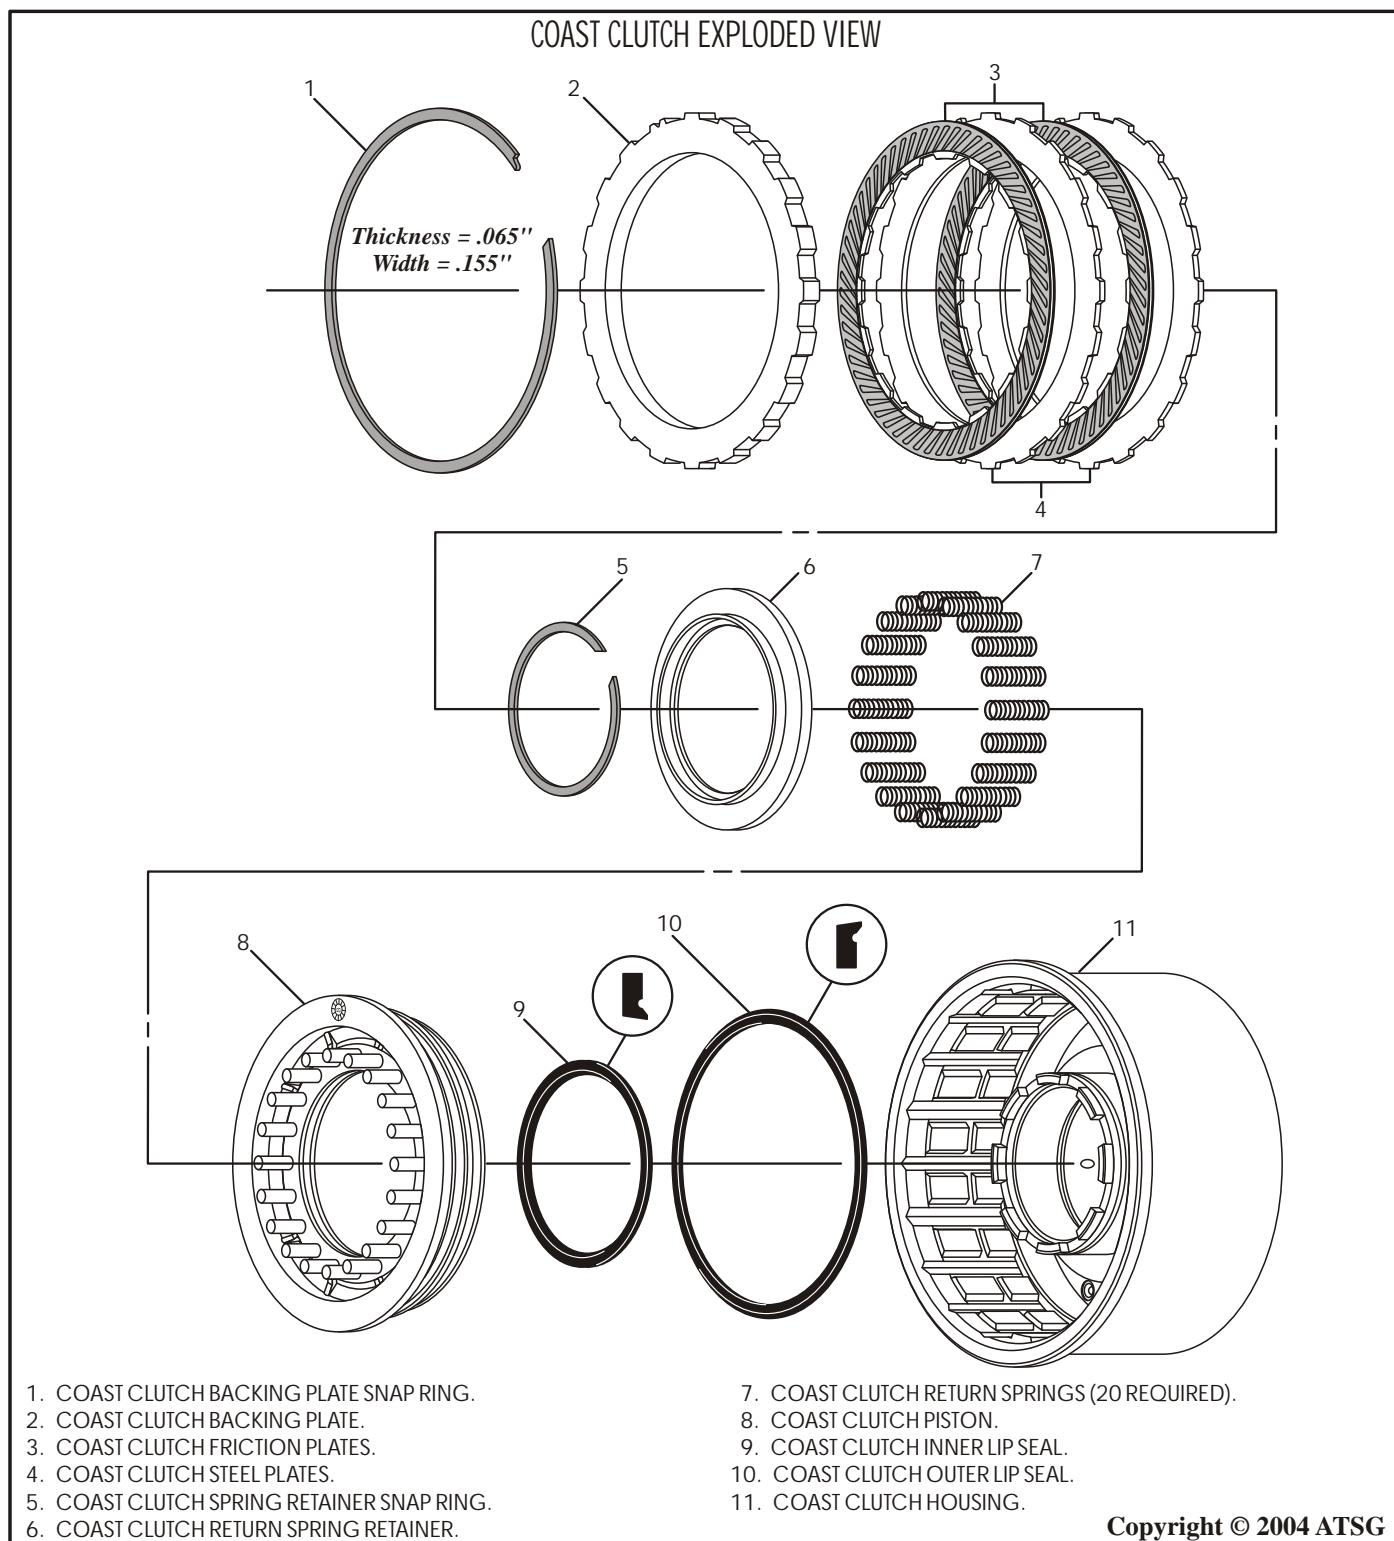

Figure 66
1. Disassemble the coast clutch assembly using the illustrations in Figure 66 as a guide.
2. Remove and discard the coast clutch lip seals, as shown in Figure 66.